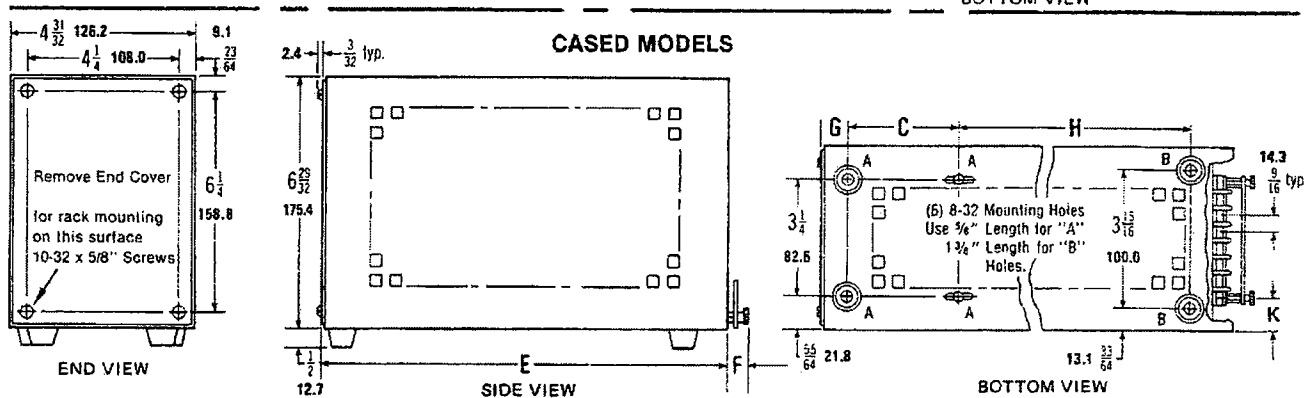

FIG. 8 MECHANICAL OUTLINE DRAWING, PRM 280 SERIES.
SPECIFICATIONS, MECHANICAL (See "Mechanical Outline Drawing", FIG. 8)
- A) MOUNTING: Three mounting methods are illustrated in the Mechanical Outline Drawing, FIG. 8. The PRM module may also be mounted into a standard (19-inch) instrument rack by means of the following Kepco Rack Adapters: